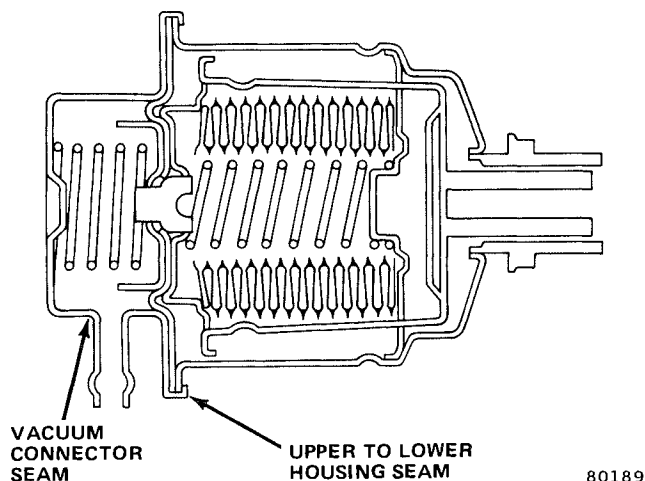

Fig. 2C-4 Vacuum Modulator
(1) Check for presence of transmission fluid in modulator using pipe cleaner. Insert pipe cleaner into modulator vacuum connector pipe as far as possible. Withdraw pipe cleaner and check for presence of transmission fluid on pipe cleaner.
(2) Replace modulator if fluid is found in connector pipe (fig. 2C-4). Transmission fluid may be lost through diaphragm and burned in engine.
(1) Apply liberal coating of soapy water solution to vacuum connector pipe seam, crimped upper-to-lower housing seam, and threaded screw seal (fig. 2C-4).
(2) Check for leaks as follows: Using short piece of rubber tube, apply air pressure to vacuum pipe by blowing into tube and inspecting for leak bubbles. If bubbles appear, replace modulator.
Converter housing area leaks may have several sources. Through careful observation, it is possible to pinpoint the leak source before removing the transmission. The paths that various types of fluid leaks follow are shown in Figure 2C-5 and are described as follows: